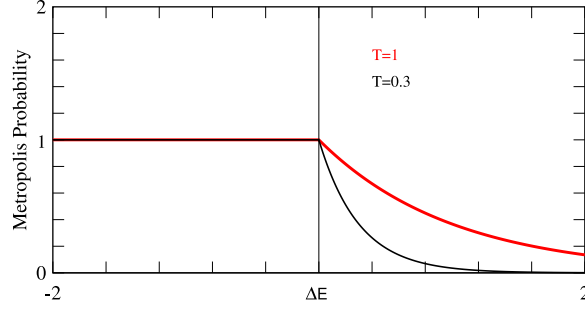

Figure 2: Metropolis rule of equation (2), taken from [1].
4. **Acceptance/Rejection rule:** Keep the update with the probability given by the metropolis rule (figure 2):